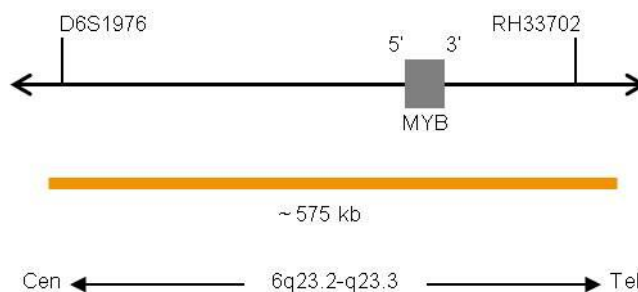

Fig. 1: SPEC MYB Probe map (not to scale)
- ZyOrange (excitation 547 nm/emission 572 nm) labeled polynucleotides (~4.5 ng/μl), which target sequences mapping in 6q23.2-q23.3\* (chr6:135,141,227-135,715,246) harboring the MYB gene region (see Fig. 1).